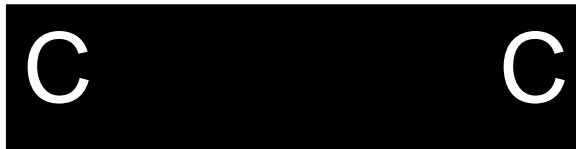

Figure C-1. EPC-7/EPC7-AM Orientation.
Lay the EPC-7/EPC7-AM assembly on a static-free work surface with the EPC7-AM side up and the front panel to your left as shown in Figure C-1 below. This will position the bottom of the assembly closest to you.
- ÿ Remove the 8 side panel screws shown in Figure C-1 above. Set these screws aside for now. You will need them later.